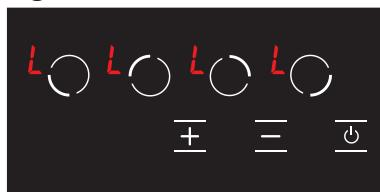

Figure 16
3. The child lock is activated at this time and the icon is displayed on all hobs to indicate this condition. (see Fig. 16) The and icons are displayed alternatively if any hob is hot.